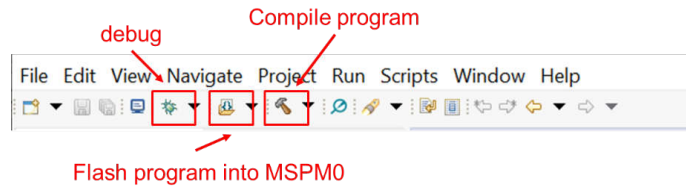

Figure 2-23. Commonly Used Function
3. Figure 2-23 shows a quick introduction to CCS functions.